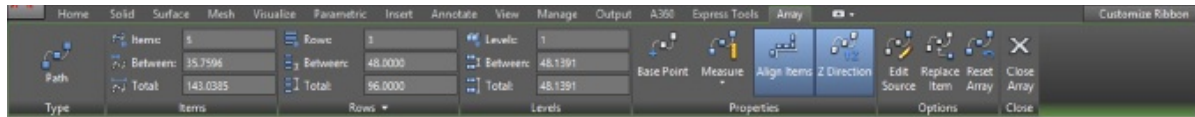

FIGURE 21.26 The Array ribbon tab appears, and a new set of panels and options is displayed.
1. Click the array of chairs. Notice that the contextual Array ribbon tab appears (see Figure 21.26).